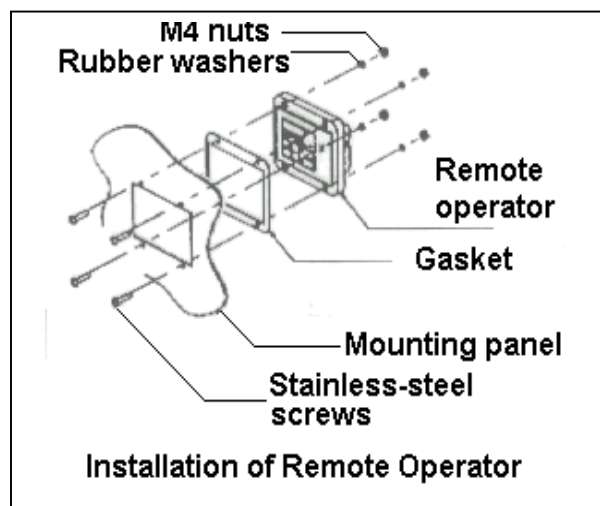

Figure 5: Flush Mount Installation
14. For a flush mount, apply the gasket to the front side of the digital operator, and install the remote operator from the rear side of panel. Insert the screws through the front side of the panel and then mount the washers and nuts to the rear side of the panel. Four washers are not needed in this application. Tighten screws gradually from the front side of the panel to prevent damaging the rubber gaskets. See Figure 5.